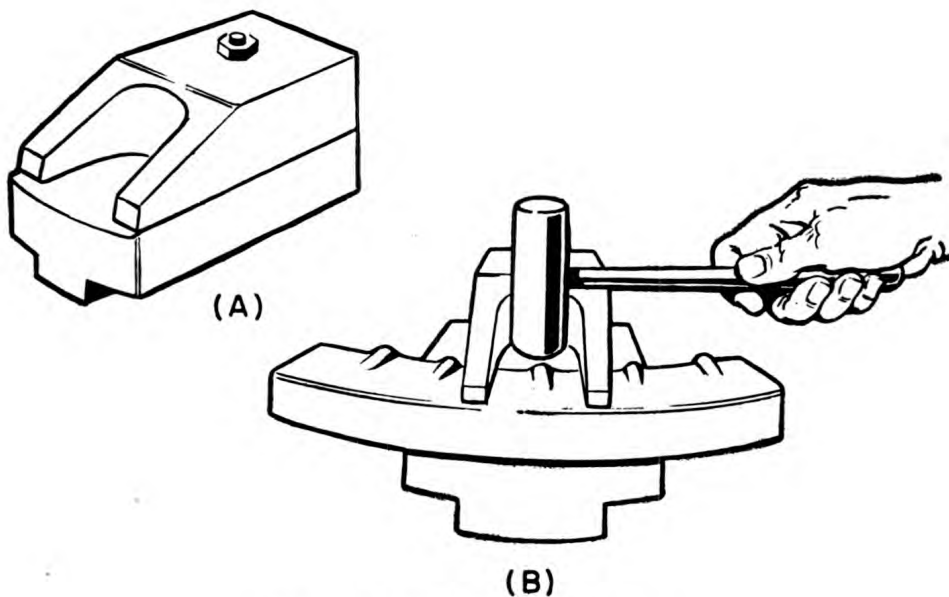

Figure 46.—Removing crimps.
ing block like that in (A) of figure 46 is best, or, you can use just blocks and clamps. Figure 46 (B) shows how to start the flattening AT THE APEX OF THE CRIMP. Then from the apex work gradually toward the base.